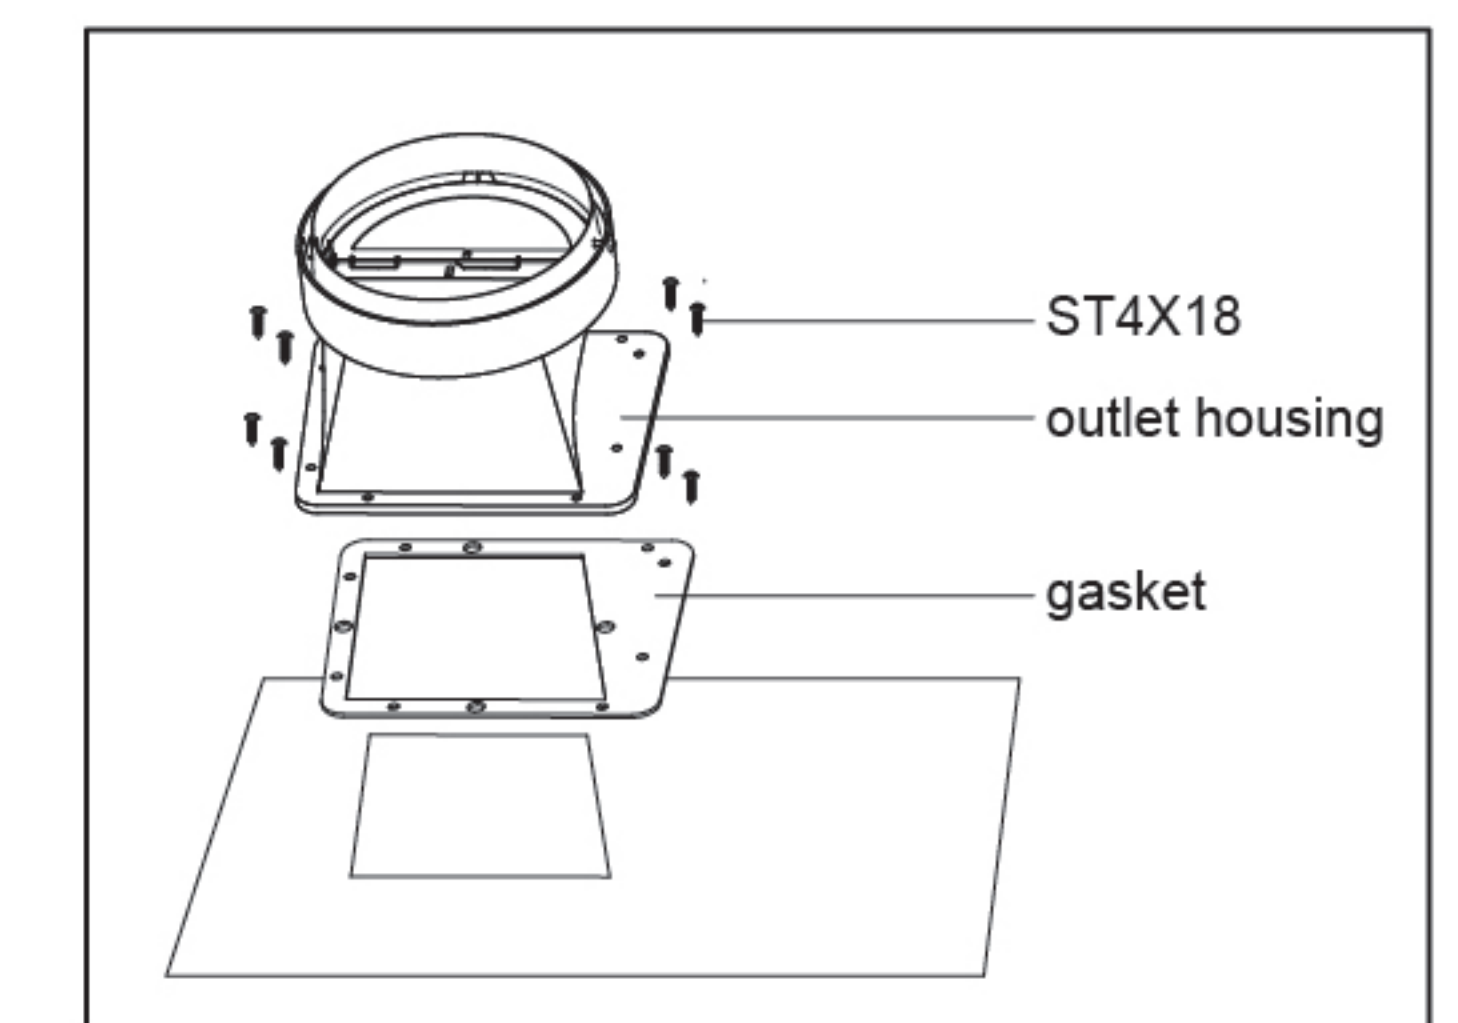

fig9
- Place the outlet housing and the sealing rings at the air outlet of the main body, and use 8 screws ($\text{M}4 \times 18\text{mm}$) to fix the outlet housing and the sealing rings. (fig9)